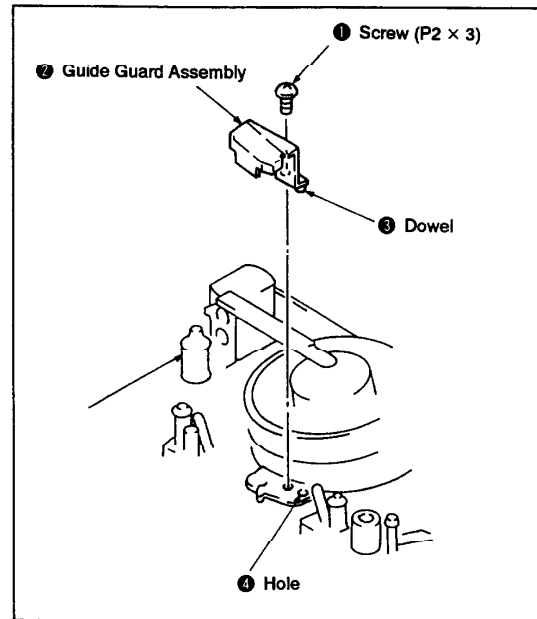

Fig. 3-2.
1. Removal (See Fig. 3-2.)
- 1) Remove the screw ①, then remove the guide guard assembly ②.
2. Installation (See Fig. 3-2.)